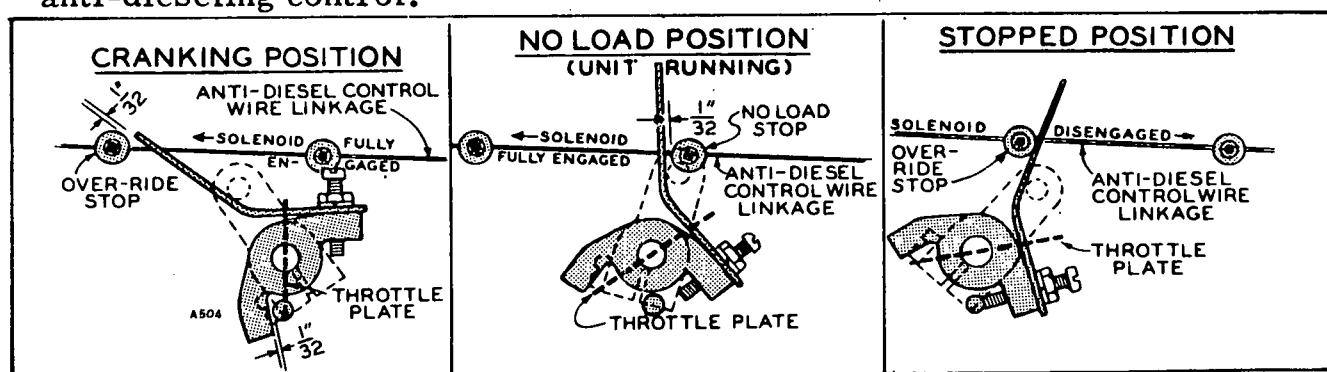

FIG. 6-5. ANTI-DIESEL CONTROL ADJUSTMENT
9. Anti-diesel control - (a) See that the wire linkage is securely attached to the solenoid plunger. Do not shorten or lengthen this connection unless the spring tension at the opposite end cannot be fully adjusted by its stud. (b) Set the stop (over-ride set screw, located nearer the solenoid) on the wire linkage to about $1/32$ in. (Fig. 6-5) from the slotted over-ride lever on the carburetor so that it does not interfere with wide open throttle when the solenoid is fully engaged (plunger in, as when plant is running). (c) See that the anti-dieseling control spring tension is just enough to positively bend the governors' jointed lever and